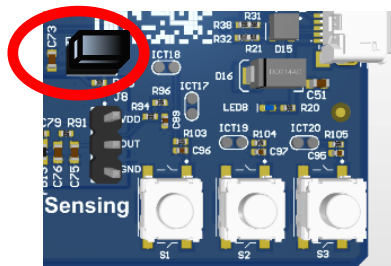

Fig.1 P8 Jumper
- Verify Jumper is present on P8 (to power the Inductive position sensor circuitry) (Fig.1)